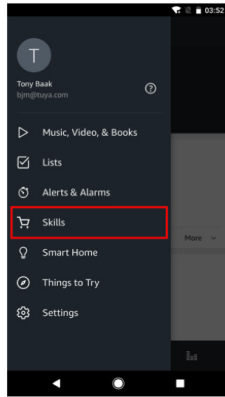
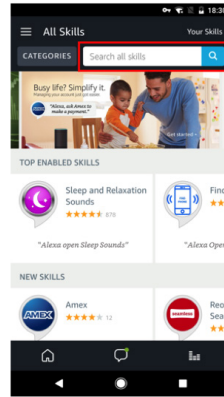

fig.17
fig.18
- Select the “Menu” option in the top left corner and select “Skills” (fig.17), and then search “Igenix” in the search bar (fig.18).